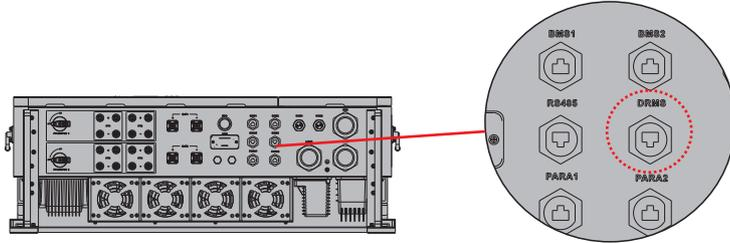

Figure 4.6-1 DRMS interface
**Step 1.** Screw this plate off from the inverter. See Figure 4.6-1.